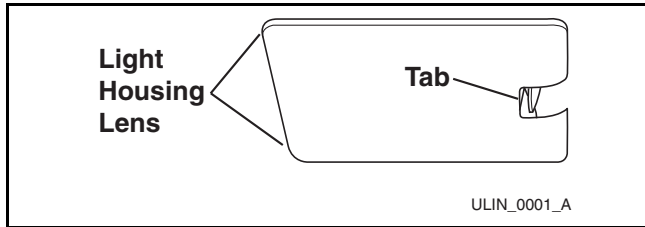

Figure 18. Light Housing Lens
1. Grasp the edges of the light housing lens opposite the exposed tab and gently push the lens toward the tab (**Figure 18**).